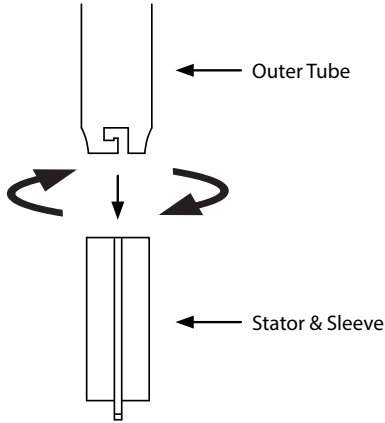

Figure 7
- Remove stator from outer tube by rotating the stator sleeve clockwise and pulling the stator sleeve and PTFE stator through the bottom of the outer tube (see Figure 7).
- Install stator/stator sleeve in outer tube by aligning the tabs on the sleeve with the grooves on the outer tube, inserting the sleeve and rotating counter-clockwise (see Figure 7).